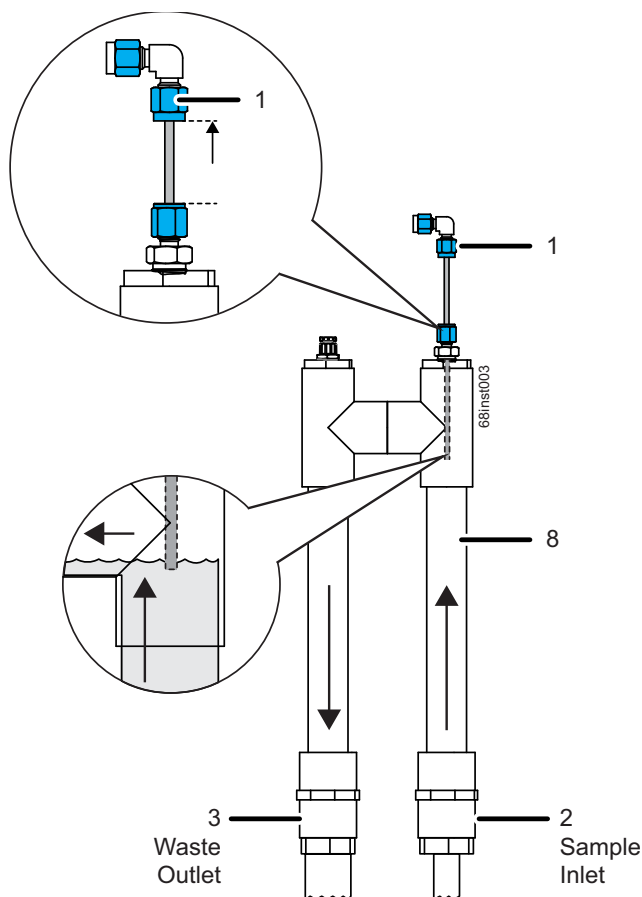

Figure 34: Overflow Mode — Adjusting the Sipper Tube Height
18. Set the needle height (1) of the internal sipper tube (needle). Test the proper adjustment of the sipper tube by performing a sample flush and verifying that no bubbles are pulled through the inlet tubing. Ensure it is installed at the highest point possible before drawing air bubbles. See Figure 34.